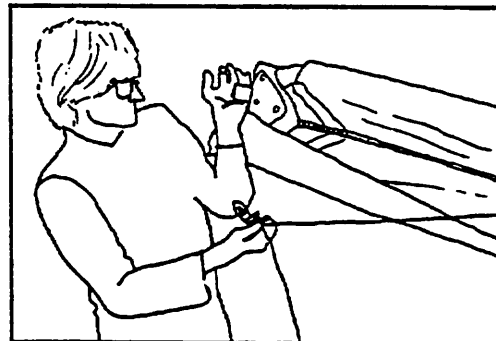

Figure 9
4) Flip the glider upright on the control bar, and remove the bag and all velcro ties. (Figure 9) *Do not remove the leading edge tip protector bags at this time. Do loosen the velcro on the tip protector bags as much as possible without detaching it.*